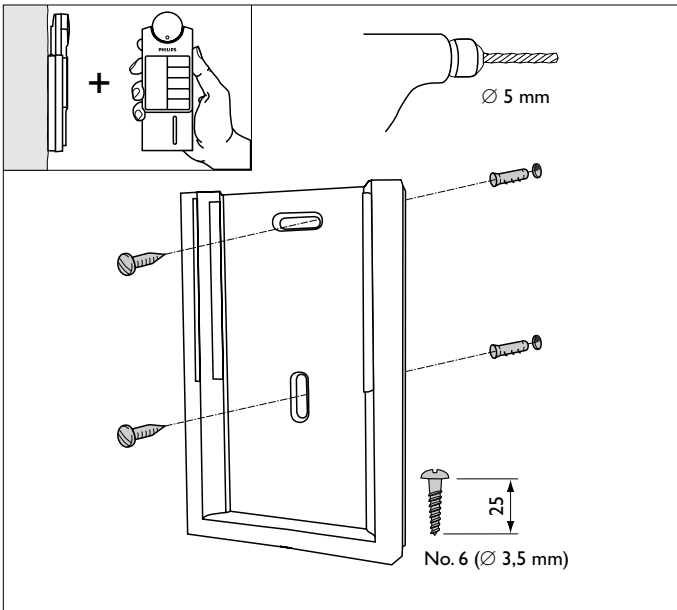

Figure 5a: mounting the wall holder
- Mounting : with screws or double-sided tape. (see figure 5a)
The transmitter can be placed in a wall holder. If necessary the transmitter can be locked in the wall holder. For details see figure 5a and 5b: mounting the transmitter.